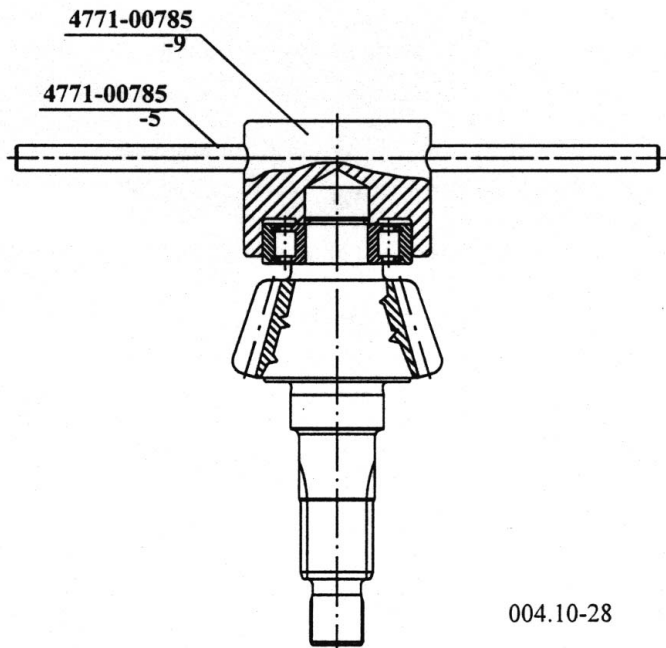

Fig. 9.: DRIVING ON THE CYLINDRIC ROLLER BEARING
Drive on the cylindrical roller bearing (45) by means of the pressing head (Fig. 9.)